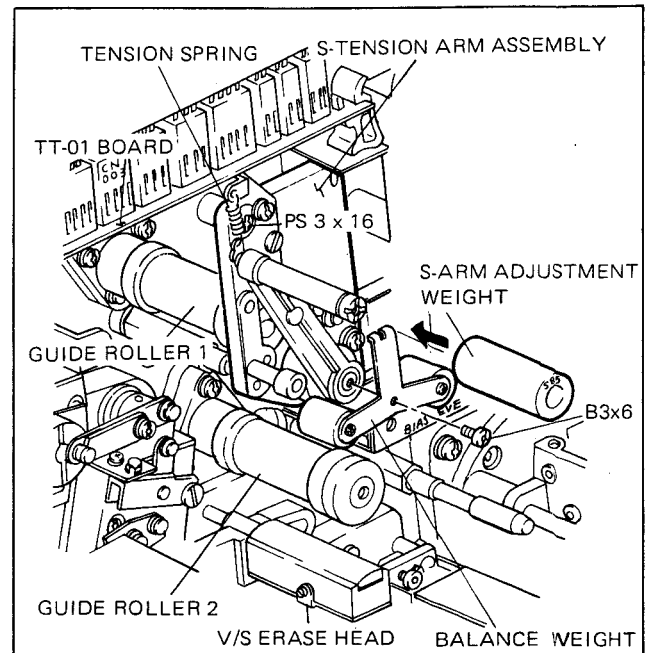

Fig. 3-39. S Tension Arm Replacement
- Remove the two screws (PS3×16) shown in Fig. 3-39. Remove the S-tension arm assembly, and install a new one.